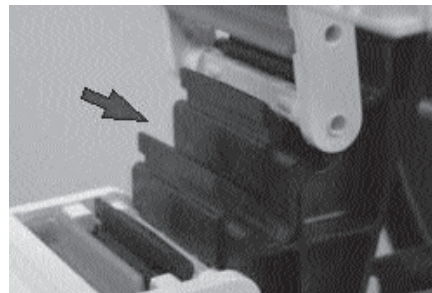

Figure 1
1. As the ribbon tray is double-height, the first available slot in the tray support bracket must be skipped (arrow, Figure 1). Holding the tray in a vertical position, insert the tray hinge pin into the second available slot with a rocking motion. (Figure 1)